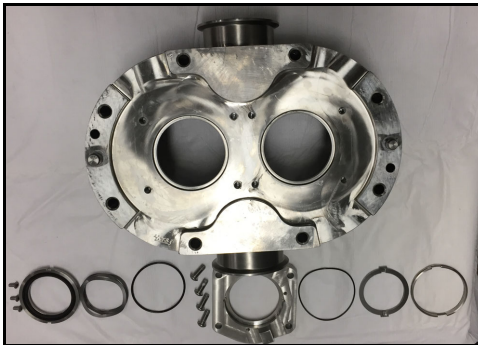

Figure 83 - Double Mechanical Seal (040-U3 shown)
1. Lay out the required parts for each seal (Figure 83 shows parts for one seal, on a 040-U3 size pump).